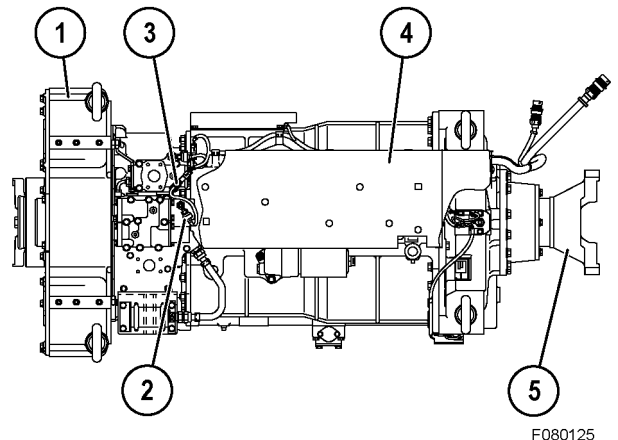

FIGURE 8-2. SENSOR WIRING
4. If the transmission is to be disassembled, remove the cap screw on the output shaft and remove drive shaft flange (5, Figure 8-2).
5. Remove cover (4) from the ECMV valve assembly.
6. Disconnect inlet pressure sensor (2) and outlet pressure sensor (3).